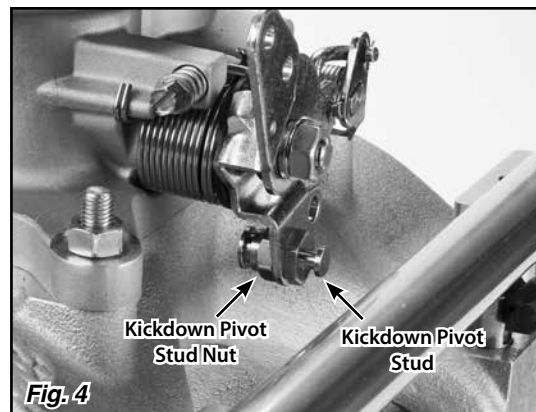

Fig. 4
Step 2: Apply thread locking compound to the threads on the kickdown pivot stud. Install the kickdown pivot stud and pivot stud nut into the lower hole in the throttle body linkage arm. Tighten using a 1/2" wrench. Fig. 4